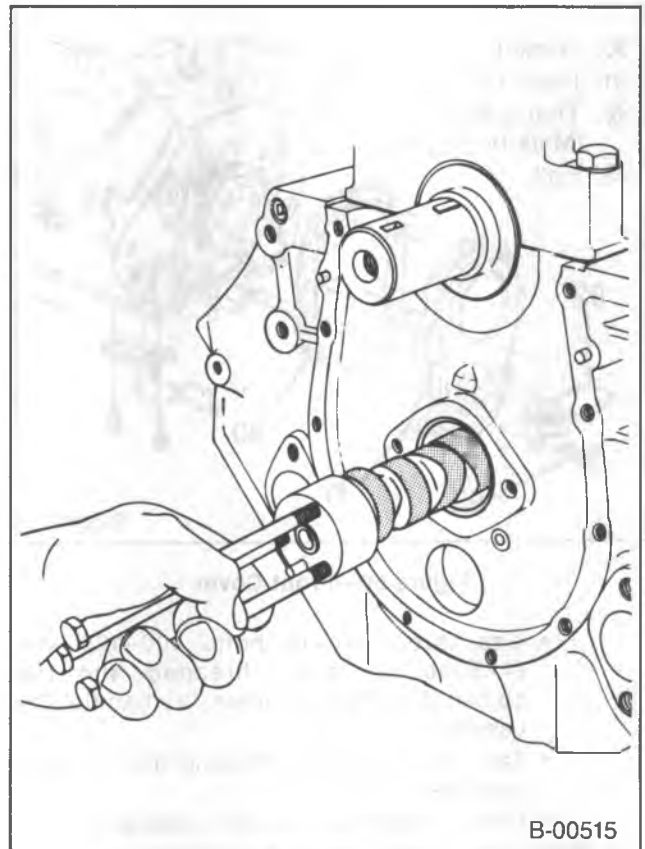

Figure 58—Installing the Camshaft
Install or Connect (Figures 58 and 59)
1. Camshaft (figure 58).